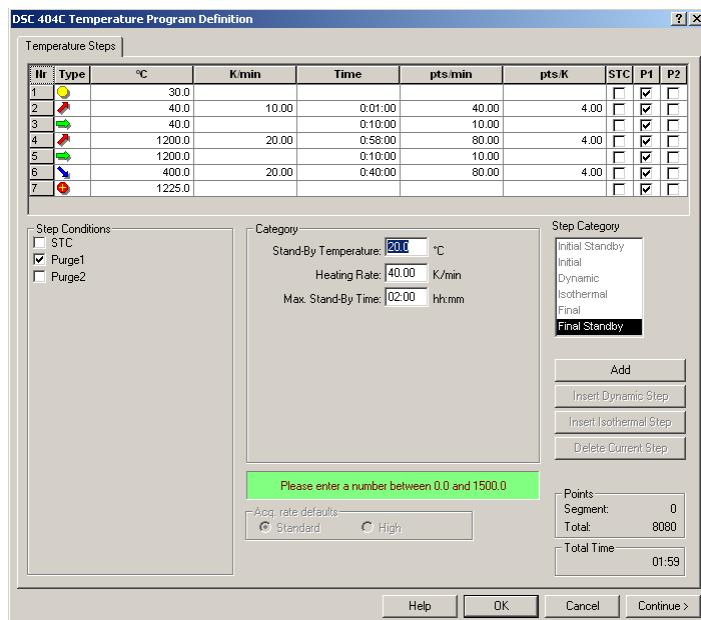

Figure 12. Furnace program screen.
Step 17a: Program the furnace steps using the screen shown in Figure 12. First, a starting temperature is entered under “Category.” This temperature should be slightly higher than the maximum expected ambient temperature. Purge gases and sample temperature control (STC) may also be selected for each temperature step. STC controls the furnace by reading the sample temperature instead of the furnace temperature. STC is not generally used. Next click “Add” to add another step. “Add” must be clicked after the addition of each step. Dynamic steps allow the addition of a temperature rise or drop. If a dynamic step is added, final temperature and ramp rate must also be selected under “Category.” Isothermal segments allow the temperature to equalize between dynamic steps. A duration must be programmed under “Category” if an isotherm is added. Once all temperature steps are programmed, select “Final.” An emergency temperature limit will be added. This temperature should be about 25 °C over the maximum test temperature and will shut down the system if reached. Click “Add” to activate the “Continue” button, and click when the program is ready.